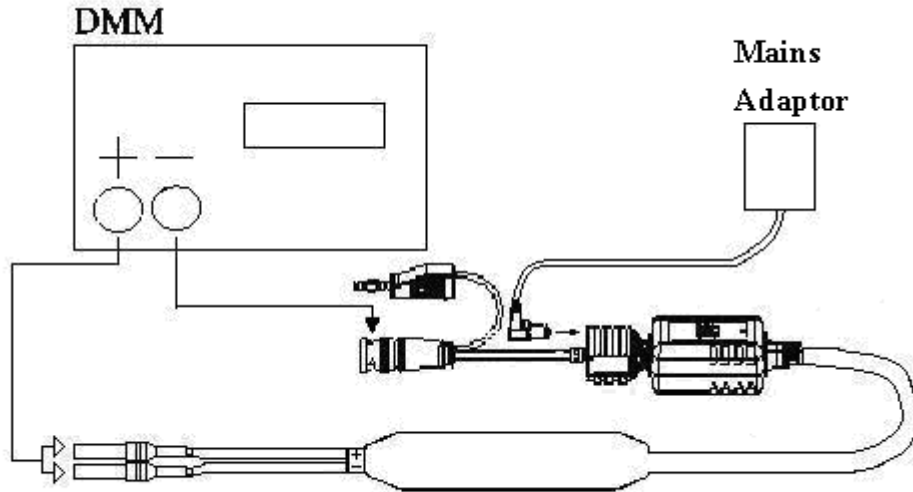

Fig. 3
- B-1. Connect the probe as shown in Fig.3.